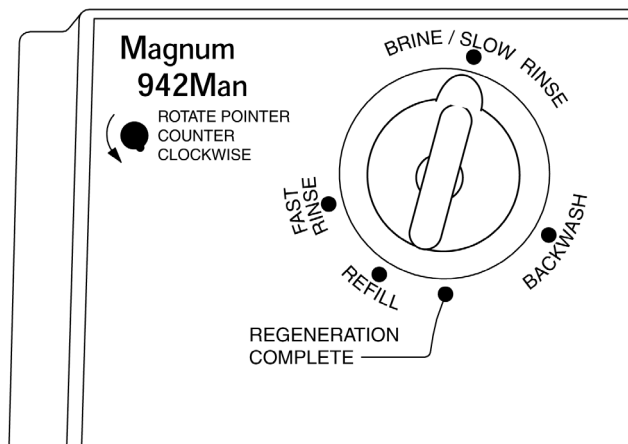

Figure 5.2
3. When the backwash is complete, move the indicator knob **COUNTERCLOCKWISE** to the center of the **Brine/Slow Rinse** position (Figure 5.2). See the "Suggested Brine Draw/Slow Rinse Table" to determine the correct draw/rinse time. Please note that the tables are given at three salting levels and four pressures. The indicator knob should remain in the **Brine/Slow Rinse** position for the time\* indicated in the table.